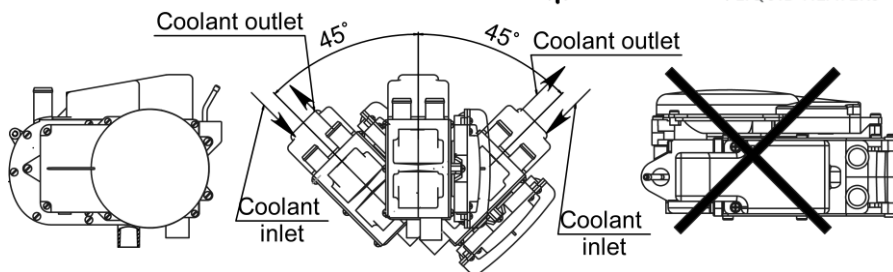

Figure 7.2 – Heater acceptable operating positions
The heater shall be installed with account of its operating positions (figure 7.2, items 7.1.1 and 7.1.2).
**Attention! In case the heater is tilted to be installed on the vehicle, fluid hoses shall be connected to the heater adapters as shown in figure 7.2.**